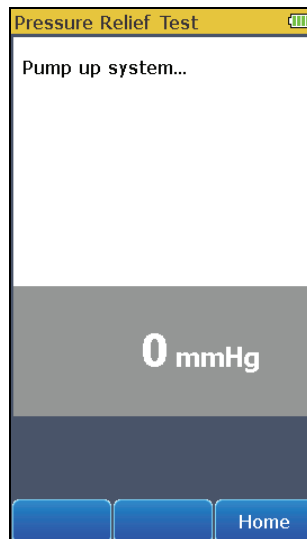

Figure 12. Pressure Relief Test Screen
2. Touch the **Pressure Relief Test** control to show the screen in Figure 12 in the display.